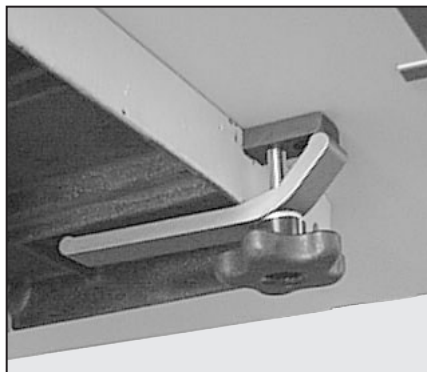

Figure 5: Use the hold down clamps to secure the Rockler table to your existing metal table.
7. To clamp the Rockler table to the existing metal table, insert the threaded rod, hold down clamp, and black knobs in the front and back end holes on the miter bar. Position the hold down clamp so it hooks on the lip of the existing table, see Fig. 5. Tighten the knob/clamp to lock the table in place.